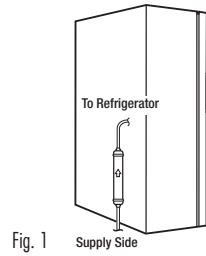

Fig. 1
1. Shut off water supply. Select a location for installation on 1/4" OD (outside diameter) plastic or copper tubing. Filter requires at least three inches behind appliance. See Fig 1.